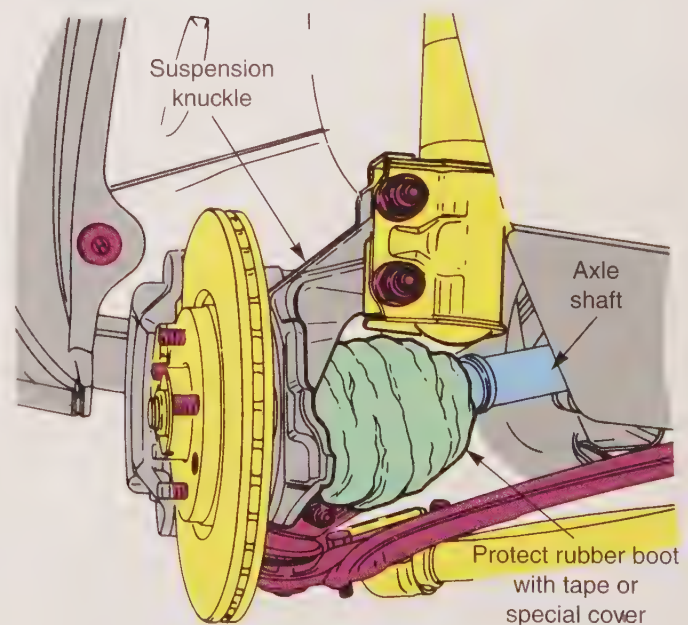

Figure 15-4. After removing the wheel and tire, cover the CV axle boot with a cloth or protector to prevent damage during axle removal. (General Motors)
4. Cover the outer CV joint boot with a shop cloth, tape, or a **boot protector**. See **Figure 15-4**. This will help prevent damage to the boot. If needed, remove the tie rod end nut and use a ball joint separator to free the tie rod end from the steering knuckle, **Figure 15-5**.